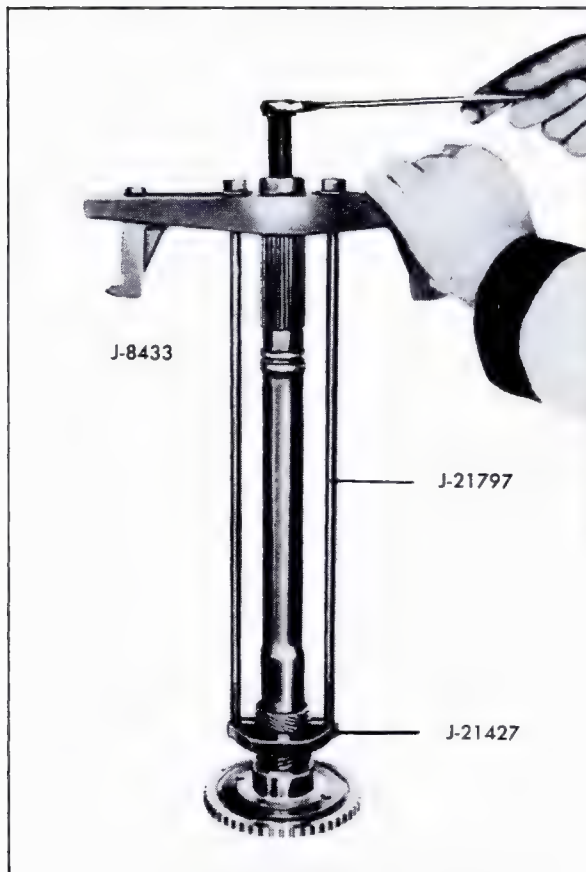

Fig. 7-94 Removing Steel Speedometer Drive Gear
b. Tighten bolt on Pulley Puller, Fig. 7-94, until gear is free on shaft. Remove tools and gear from shaft.